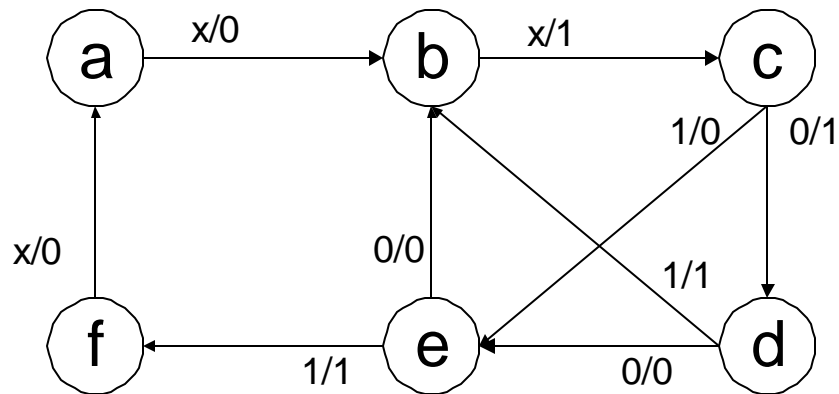

Figure 4.1
3. Design the sequential circuit for the given state diagram of Figure 4.1. Use 74HC74 or 74HC76 ICs for Flip-Flops.
2. Unused State Analysis: Force the sequential circuit of Figure 4.1 in each unused state and track transitions for each input combination.
4. Create PAL source code that implements the sequential circuit for the circuit of Figure 4.1 (state diagram) of Laboratory #4.